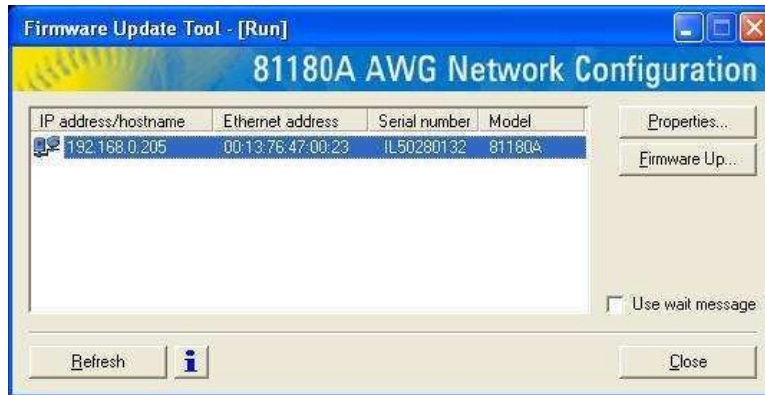

Figure 5-3: 81180A has been Detected on the LAN Network
4. As soon as the progress bar reaches the far right-hand side of the bar, click on the Refresh button. If your device was connected and booted correctly, the device address will appear in the device list, as shown in *Figure 5-3*.